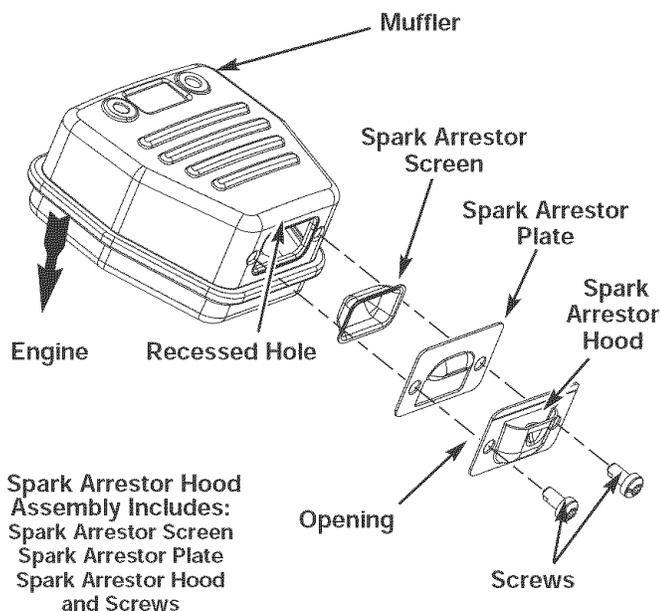

Fig. 17
2. Locate the muffler, but do not remove it. Find the two (2) screws on the bottom of the muffler (Fig. 17). These two screws hold the Spark Arrestor Hood Assembly and the spark arrestor screen to the bottom of the muffler. Remove the two (2) screws using either a Torx T20 or flat blade screwdriver.
6. Place the spark arrestor plate on top of the spark arrestor screen with the raised side up and the opening facing toward the engine (Fig. 17)
7. Place the spark arrestor hood on top of the spark arrestor plate with the "raised" side up and the opening facing AWAY from the engine (Fig. 17). Verify that the exhaust will be directed AWAY from the engine.